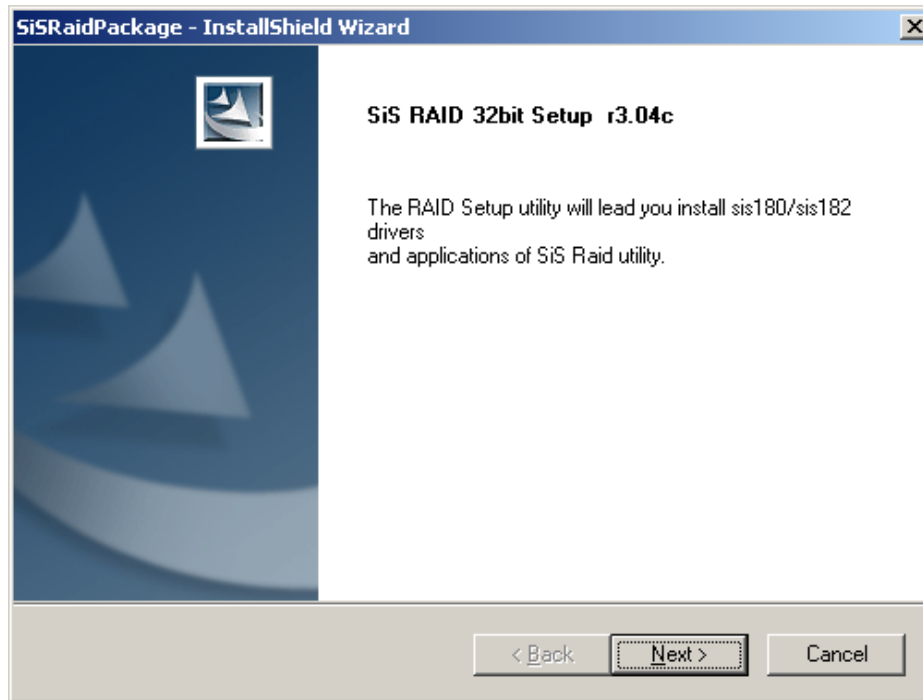

Figure 6-30: Install Shield
Step 6: The **InstallShield** window appears next (**Figure 6-30**).